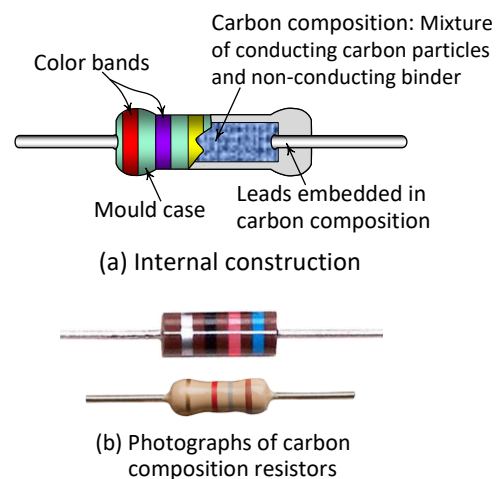

Fig.1-20: Carbon composition resistors
**Carbon composition resistors** are the oldest type resistors. These resistors are most commonly used as they are easy to manufacture, inexpensive and are suitable for most of the common applications. These resistors are made up of a mixture of carbon powder and ceramic filler material. The mixture is molded into axial resistor package enclosed by an insulating coating with two leads attached at the two ends of the package [Fig.1-20]. The ratio of carbon to the ceramic material and distance between the end terminals determine its resistance. **The greater is the proportion of carbon in the mixture, the lesser is its resistivity, and vice versa.** The ceramic filler used in the mixture is mostly phenolic, which is similar to the plastic. These resistors are available in an axial package with color-coding [discussed later] for an indication of resistor value and tolerance.